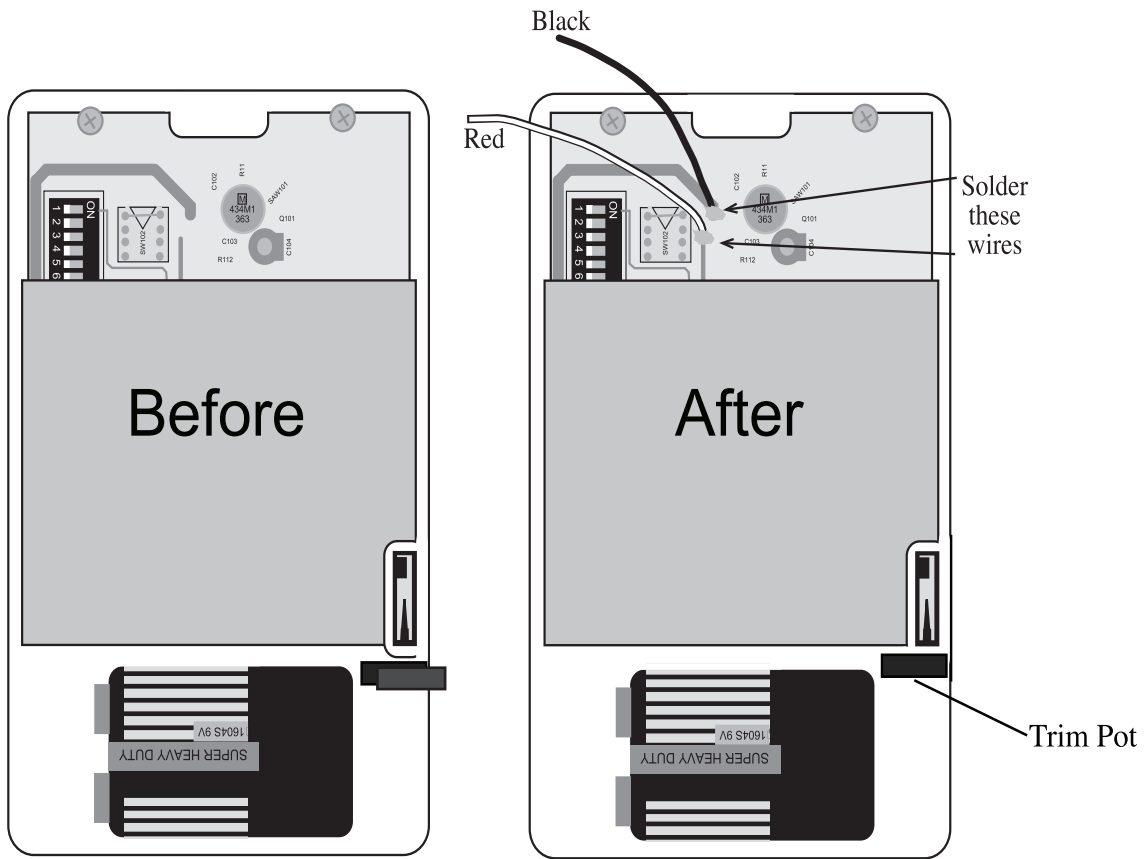

Fig. 1
4. Connect wires to points shown in Fig. 1 (the output of the PIR unit).
The PIR Sensor is designed to detect up to 40 feet away a moving heat source the size of a person. It has a cone of coverage approximately 90 degrees wide, directed straight ahead and downward from the unit (see figure 1). It should be installed to cover likely avenues of approach to and from the entryways of the house. Other possible coverage areas are hallways and areas around valuables. For installation tips specific to your home, consult your Quorum Distributor. This unit is not recommended for outdoor installation.